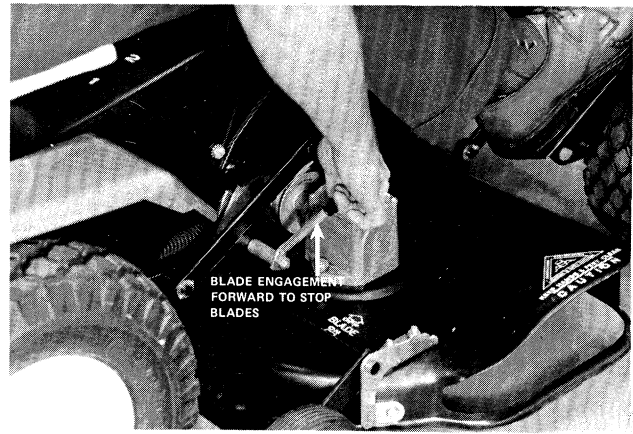

Fig. 9
**STOPPING THE BLADES IN THE CUTTING UNIT.** Move the blade engagement lever forward to stop the blades from rotating. Do not attempt to work on the unit or remove grass from the chute without stopping the engine. The blade engagement lever should be forward (Blade Off) when starting the engine. See Fig. 9.